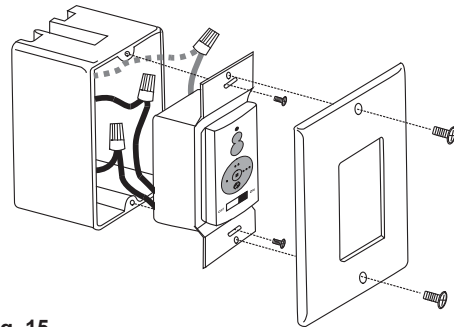

Fig. 15
Step 3. Carefully tuck the wire connections inside the outlet box. Use the screws provided to secure the wall transmitter and wall plate to the outlet box. (Fig. 15)